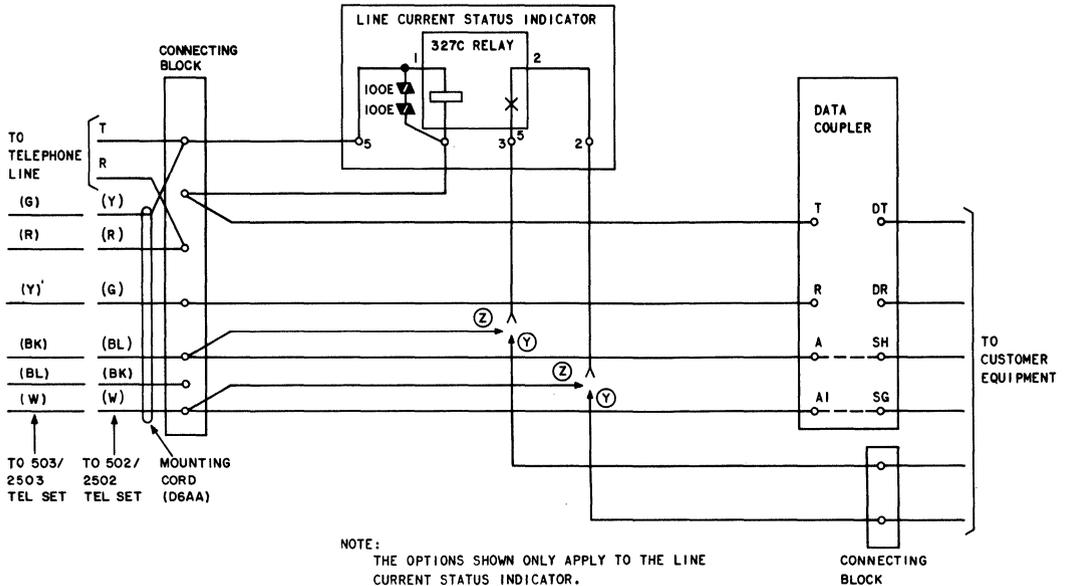

Fig. 11—Line Control Status Indicator Connection Diagram
**3.08** The LCSI (Fig. 11) must be made locally and consists of a 317A-type dry reed relay and two varistors in a 74B-49 connecting block measuring 2.75 inches wide, 4 inches long, and 1.6 inches high. The relay is in series with the coupler and gives a contact closure at the customer interface when at least 20 mA of line current is flowing through the relay and coupler. The two varistors are used to provide a low-impedance transmission path to the coupler.
- (3) Apply adhesive (Eastman 910 or equivalent) in the area to be occupied by the 327C relay.
- (4) Place relay on base plate, topside down.
- (5) Remove and discard the lower screws from terminal strip eyelets in positions 2, 3, 4, and 5.
- (6) Wire the unit in accordance with Fig. 11.